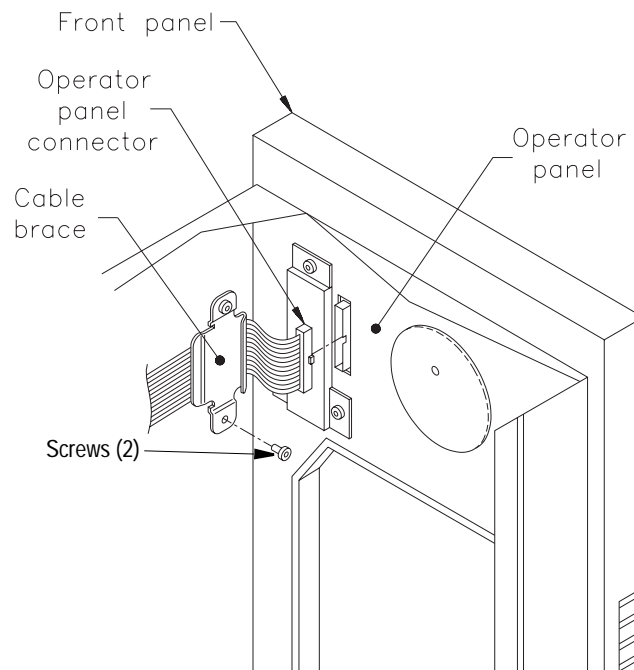

Figure 5 Removing the operator panel cable from inside the front panel
1. Using a T-8 TORX bit, remove the two screws from the cable brace and lift the brace out of the library (see Figure 5).
3. Reattach the operator panel cable (see Figure 5).
4. Using a T-8 TORX bit and two screws, secure the cable brace to the chassis (see Figure 5).